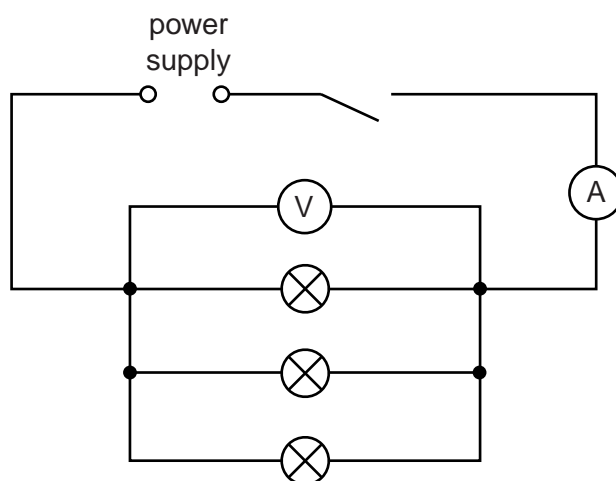

Fig. 3.1
- (ii) Three similar lamps in suitable holders. Any low voltage lamps will suffice, provided that they glow when connected as shown in Fig. 3.1.
- (vi) Sufficient connecting leads to construct the circuit shown in Fig. 3.1.
1. The components are to be connected by the Supervisor as shown in Fig. 3.1.
Set up the circuit so that it is arranged as shown in Fig. 3.1.